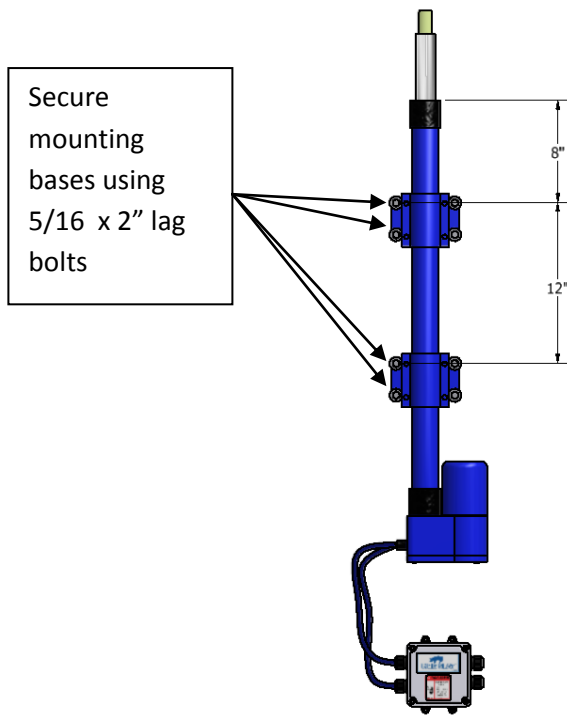

Figure 1
HS667-24 SERIES LINEAR ACTUATOR ASSEMBLY (see Figure 1)
3. Secure Linear Actuator machine to wall or ceiling using (8) 5/16" x 2" lag bolts provided **Figure 1** or optional mounting plate shown in **Figure 2**.